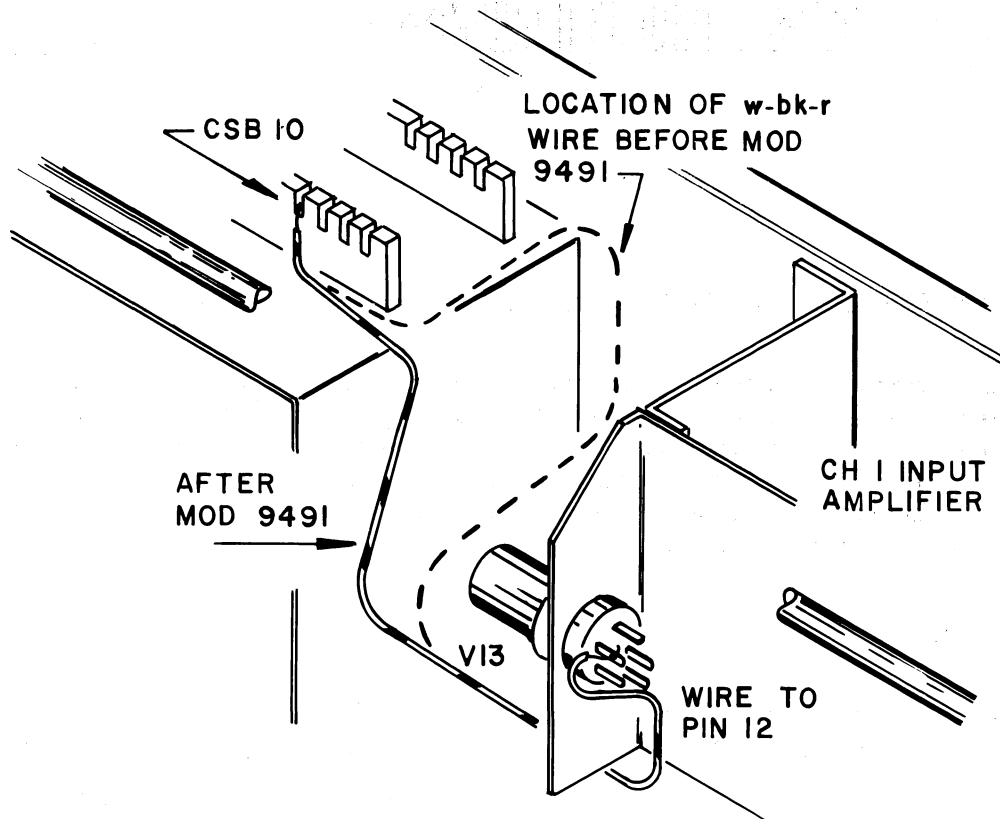

FIG. 1
- 1) Unsolder the white-black-red wire from pin 12 of V13 and ceramic strip notch CSB-10. See Fig. 1.
- 3) Install a new 5-1/2 inch #26 stranded white-black-red wire between CSB-10 and pin 12 of V13, referring to Fig. 1 for the proper routing and dress.